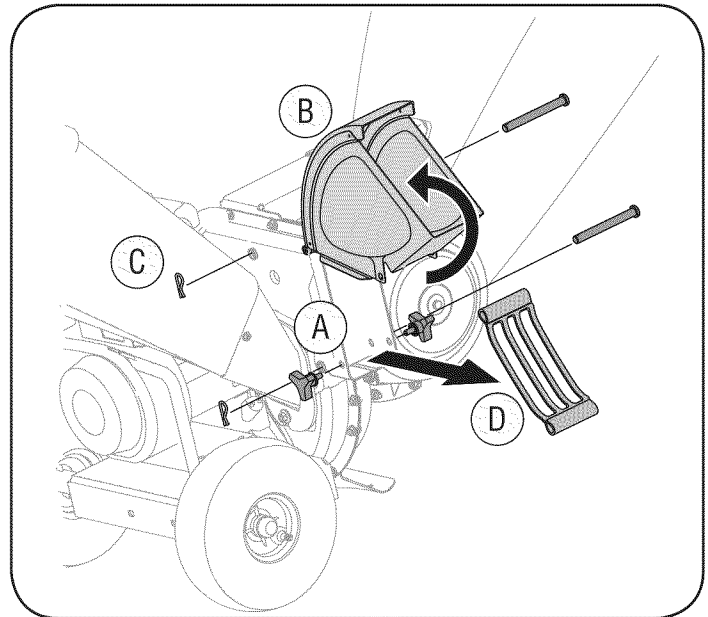

Figure 14
- A. Remove the bag and two wing knobs on each side of the chute deflector. See Figure 14.
- D. Remove the flail screen from inside the housing and clean the screen by scraping or washing with water. See Figure 14.